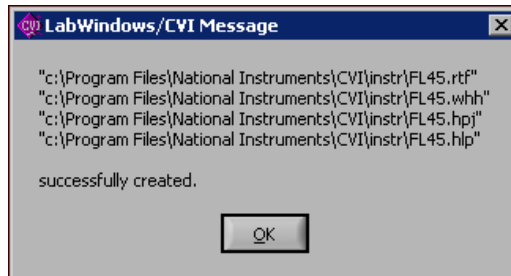

Figure 5-24. LabWindows/CVI Message Dialog Box
4. Click **OK**. The message shown in Figure 5-24 appears.